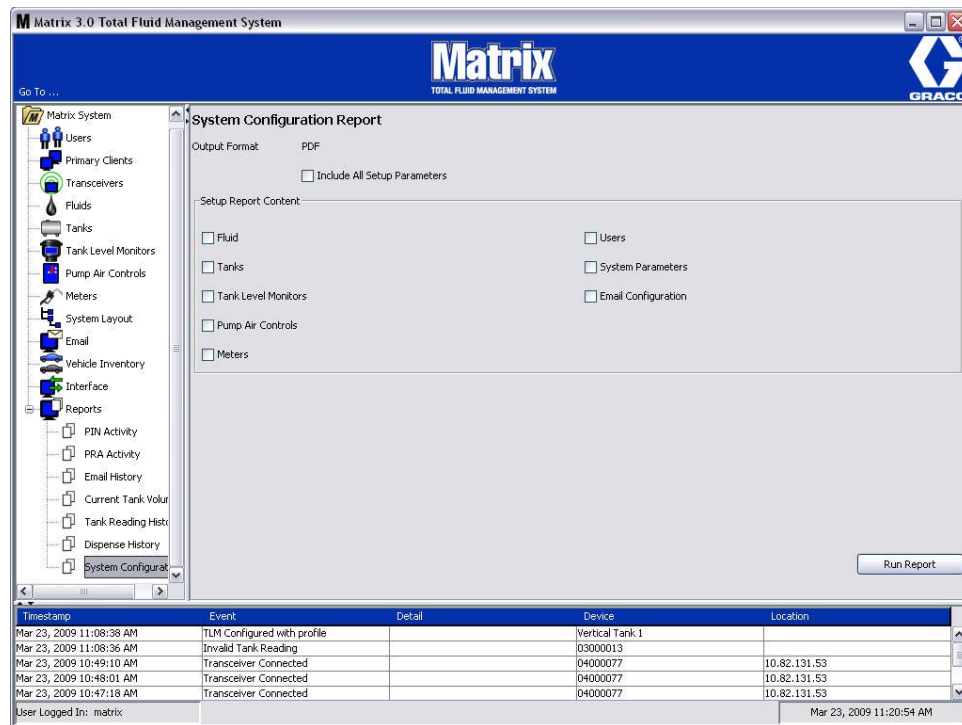

FIG. 191
- **System Configuration (FIG. 191)**